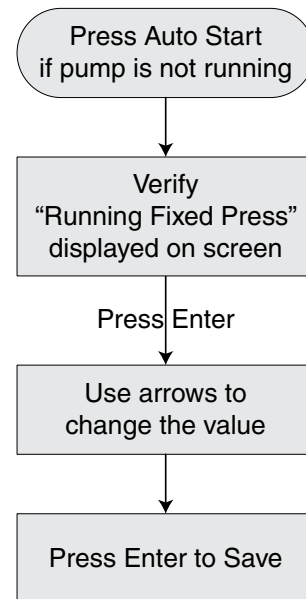

Figure 13 - Change PSI Setpoint while running pump.
- Follow keypress sequence shown in Figure 13 to make desired change. This parameter allows either Internal or External Setpoint to be changed, depending on which one is referenced at the time the change is made.